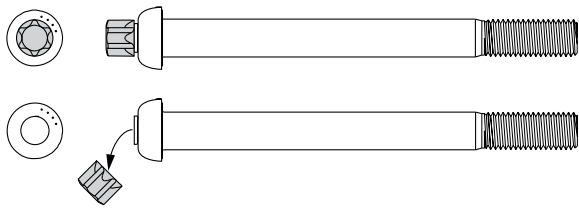

Figure 36: Shear style pivot bolt
- Installer did not shear the bolt (Figure 36 on page 28).